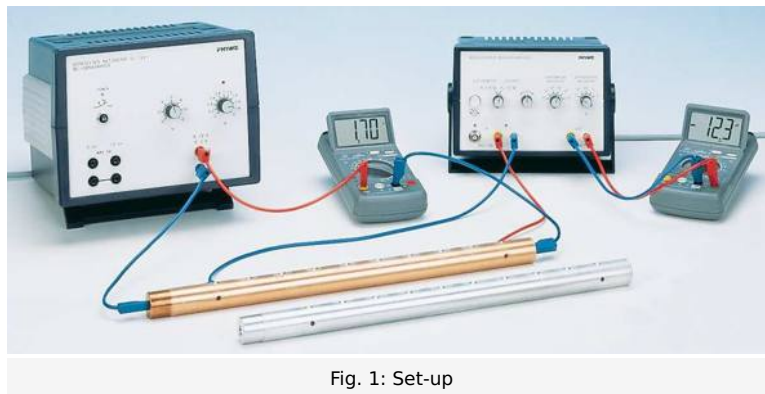
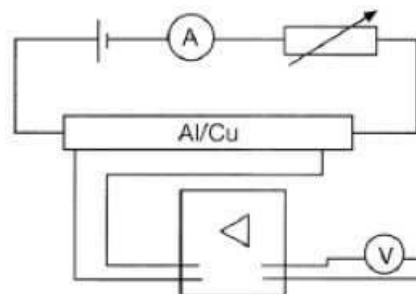

Fig. 1: Set-up
Fig. 2: Circuit diagram.
- Set-up the experiment as shown in Fig. 1 and perform the experiment according to the circuit diagram in Fig. 2 (set-up in accordance with a 4-conductor measuring method).